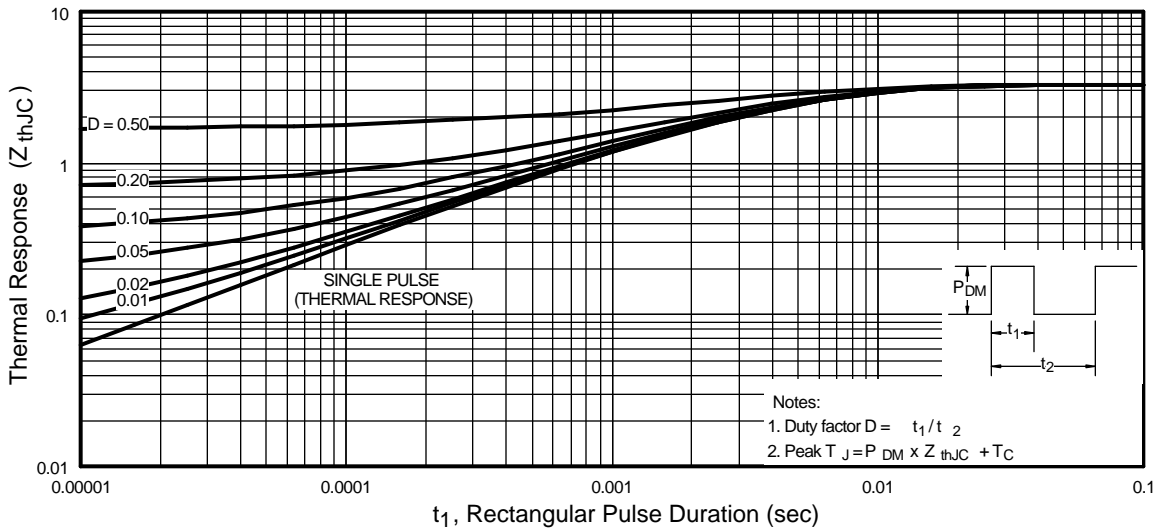

Fig 11. Maximum Effective Transient Thermal Impedance, Junction-to-Case
① Repetitive rating; pulse width limited by max. junction temperature. (See fig. 11)
② Starting $T_J = 25^\circ\text{C}$, $L = 2.8\text{mH}$